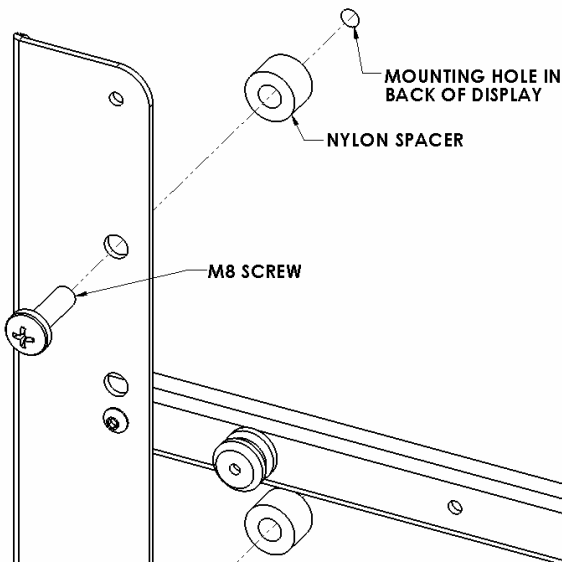
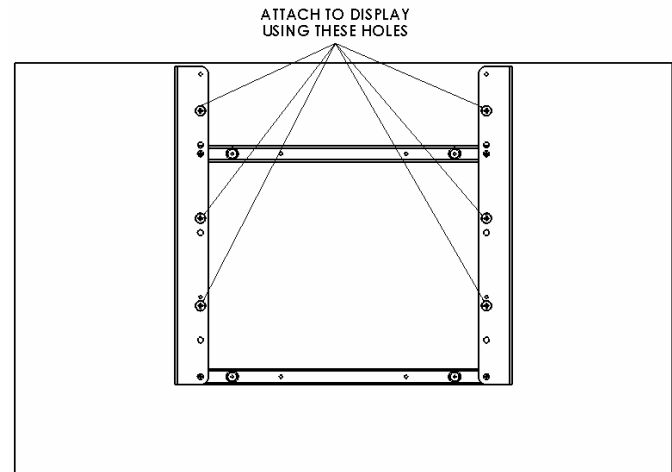

Figure 6
Figure 7
- Place Nylon spacers over mounting holes on back of screen. Attach mounting brackets to display using M8 screws (see Figures 6 & Figure 7).